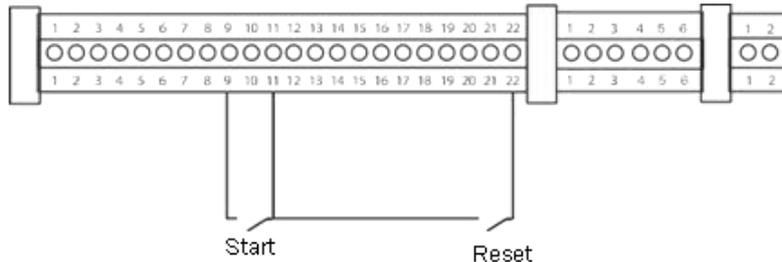

Fig. 7-2 Wiring
STEP 20: Connect digital and analogue inputs/outputs as shown in Fig. 7-2.